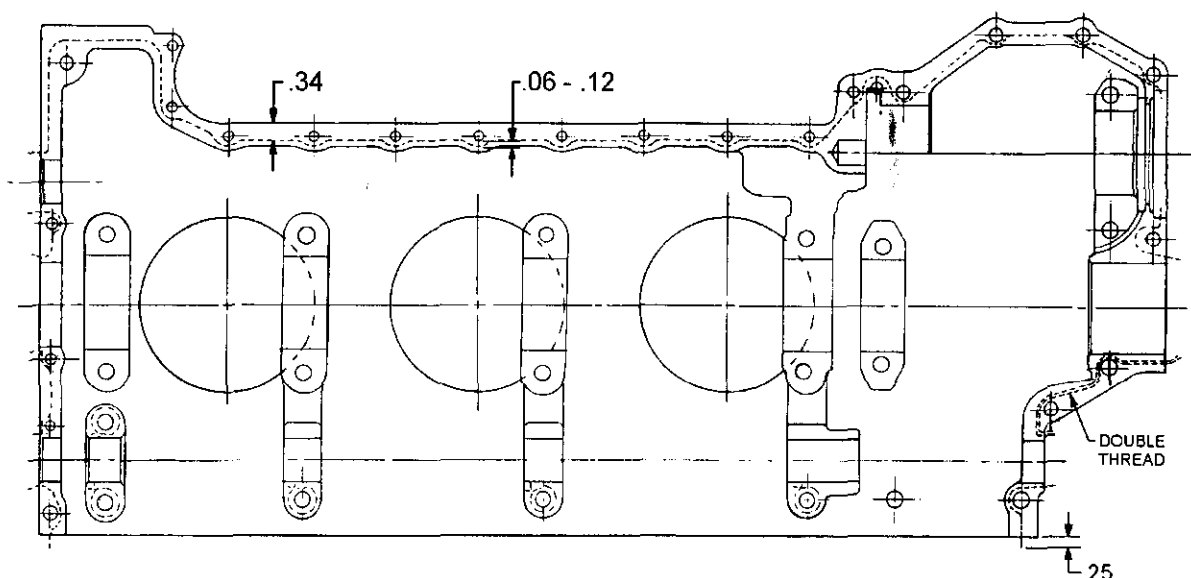

FIGURE 7. GTSI0520 CRANKCASE THREADING DIAGRAM
4. Apply and position grade D silk thread P/N 641543 on 2-4-6 case half as specified in Figure 7. Be sure free ends of thread are covered by gaskets except at the nose oil seal.